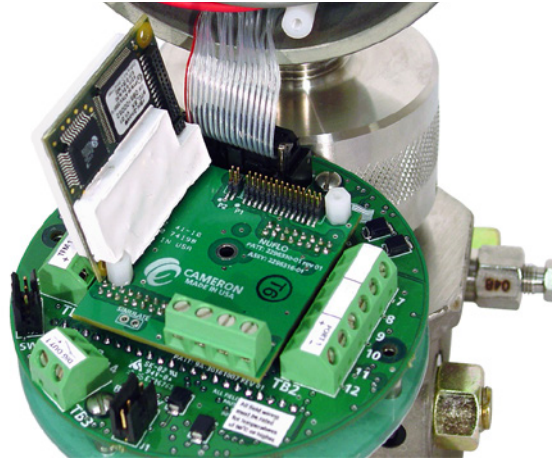

Figure C.10—Removal of white potted fieldbus module
- Remove the two screws that attach the white potted fieldbus module to the fieldbus interface board, and remove the module from the interface board (Figure C.10, page C-20).